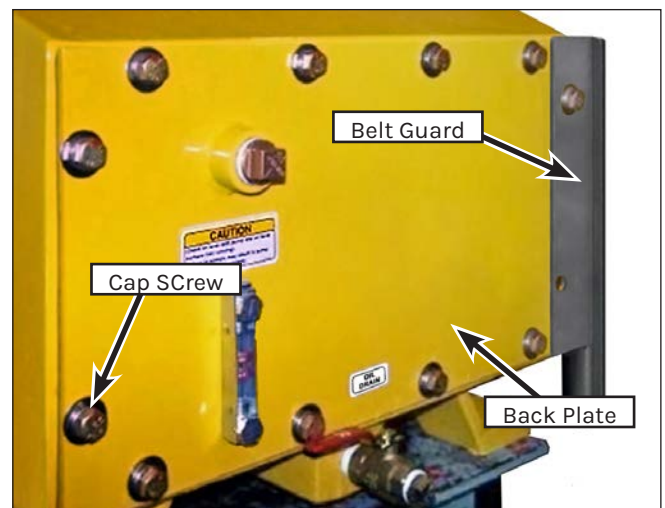

Figure 166: Cover Plate Installation.
10. Place the back plate (Figure 166), belt guard and gasket into position on the frame.